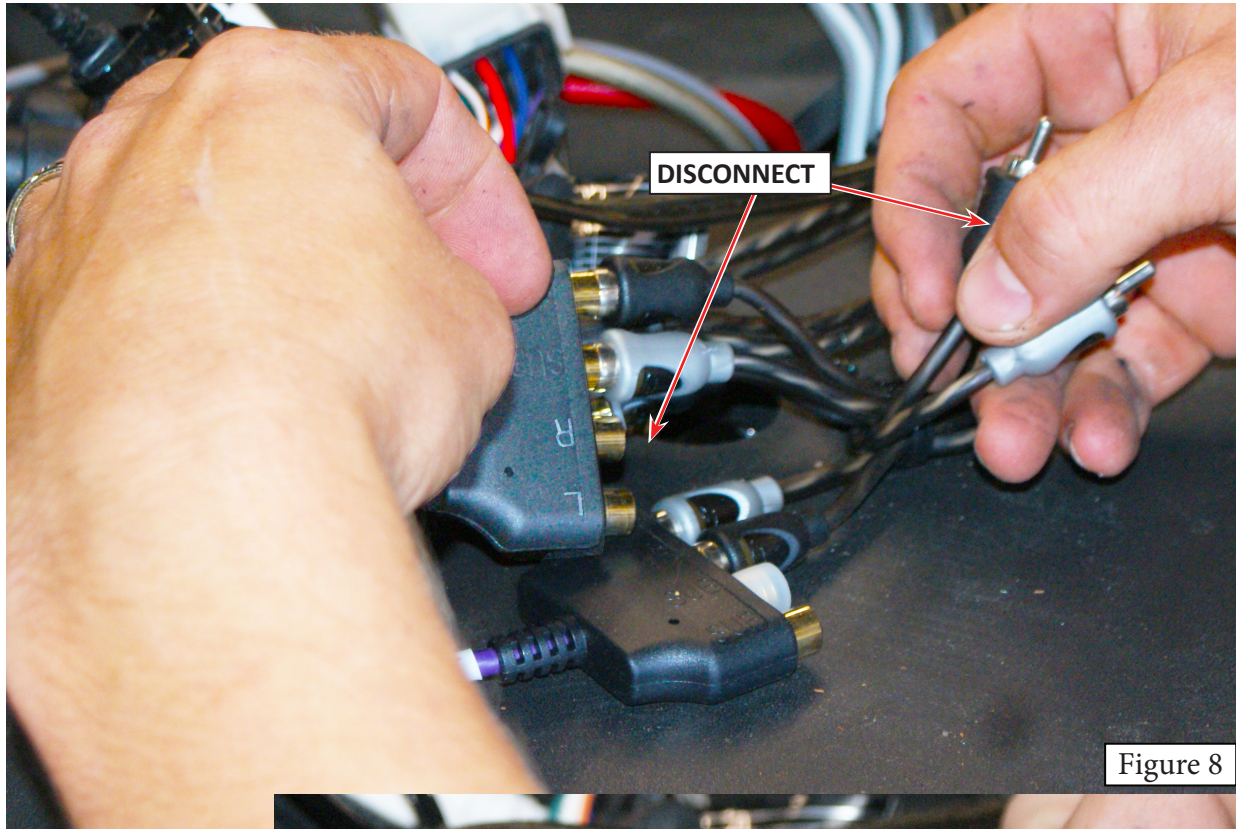

Figure 8
11. Disconnect the “L” and “R” connections on the affected ZONE OUT connector (Figure 8).